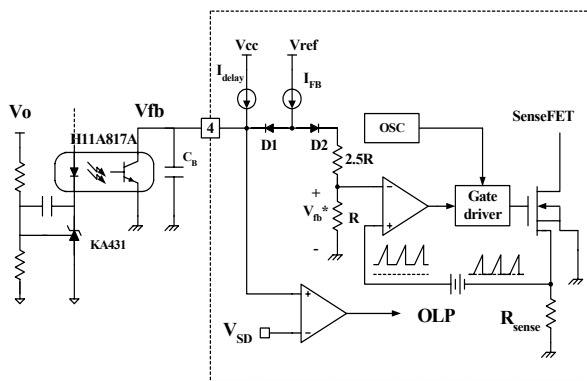

Figure 6. Pulse width modulation (PWM) circuit
2. Feedback Control : FS7M-series employs current mode control, as shown in Figure 6. An opto-coupler (such as the H11A817A) and shunt regulator (such as the KA431) are typically used to implement the feedback network. Comparing the feedback voltage with the voltage across the Rsense resistor plus an offset voltage makes it possible to control the switching duty cycle. When the reference pin voltage of the KA431 exceeds the internal reference voltage of 2.5V, the H11A817A LED current increases, thus pulling down the feedback voltage and reducing the duty cycle. This event typically happens when the input voltage is increased or the output load is decreased.
2.1 Pulse-by-pulse current limit: Because current mode control is employed, the peak current through the Sense FET is limited by the inverting input of PWM comparator (V_{fb}^*) as shown in Figure 6. The feedback current (I_{FB}) and internal resistors are designed so that the maximum cathode voltage of diode D_2 is about 2.8V, which occurs when all I_{FB} flows through the internal resistors. Since D_1 is blocked when the feedback voltage (V_{fb}) exceeds 2.8V, the maximum voltage of the cathode of D_2 is clamped at this voltage, thus clamping V_{fb}^* . Therefore, the peak value of the current through the Sense FET is limited.